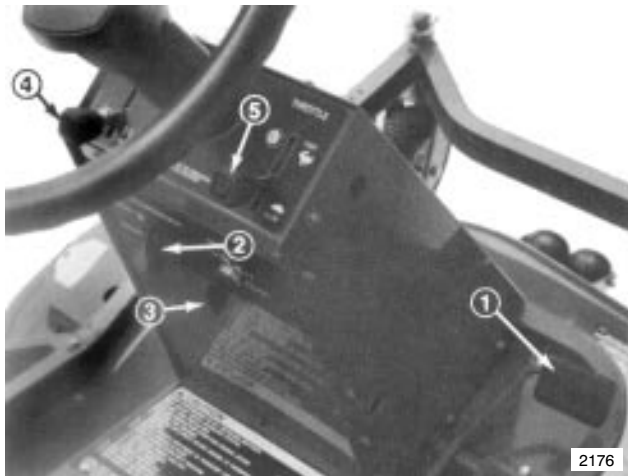

Figure 8
1. Release pressure on the traction pedal to stop movement. (Fig. 8).
2. To engage lift cover and move the PTO switch to the “ON” position (Fig. 8).
1. Closing the cover moves the PTO switch to the “OFF” position (Fig. 8).
1. To go forward, place your foot on the traction pedal (Fig. 8).
3. Slowly press on the upper pad of the traction pedal to move forward (Fig. 8).
1. To go backward, place your foot on the traction pedal (Fig. 8).
3. Slowly press on the lower pad of the traction pedal to move rearward (Fig. 8).